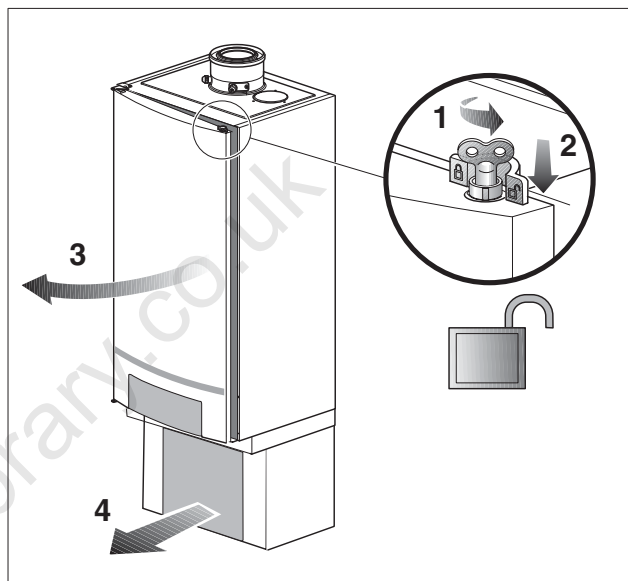

fig. 75 Opening the boiler door
- Turn the vent key through a quarter rotation to undo the boiler door lock (fig. 75, **see detailed picture**).
- Push the fastener down (fig. 75) and open the boiler door.
- Remove the insulation cover of the pump group (fig. 75).